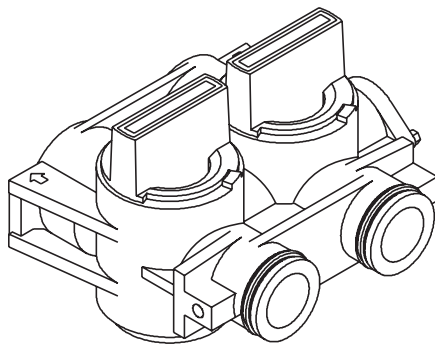

Figure 7\*
- Move the bypass valve handles to the bypass position. The bypass valve handles should be perpendicular to the pipes (see Figure 7).